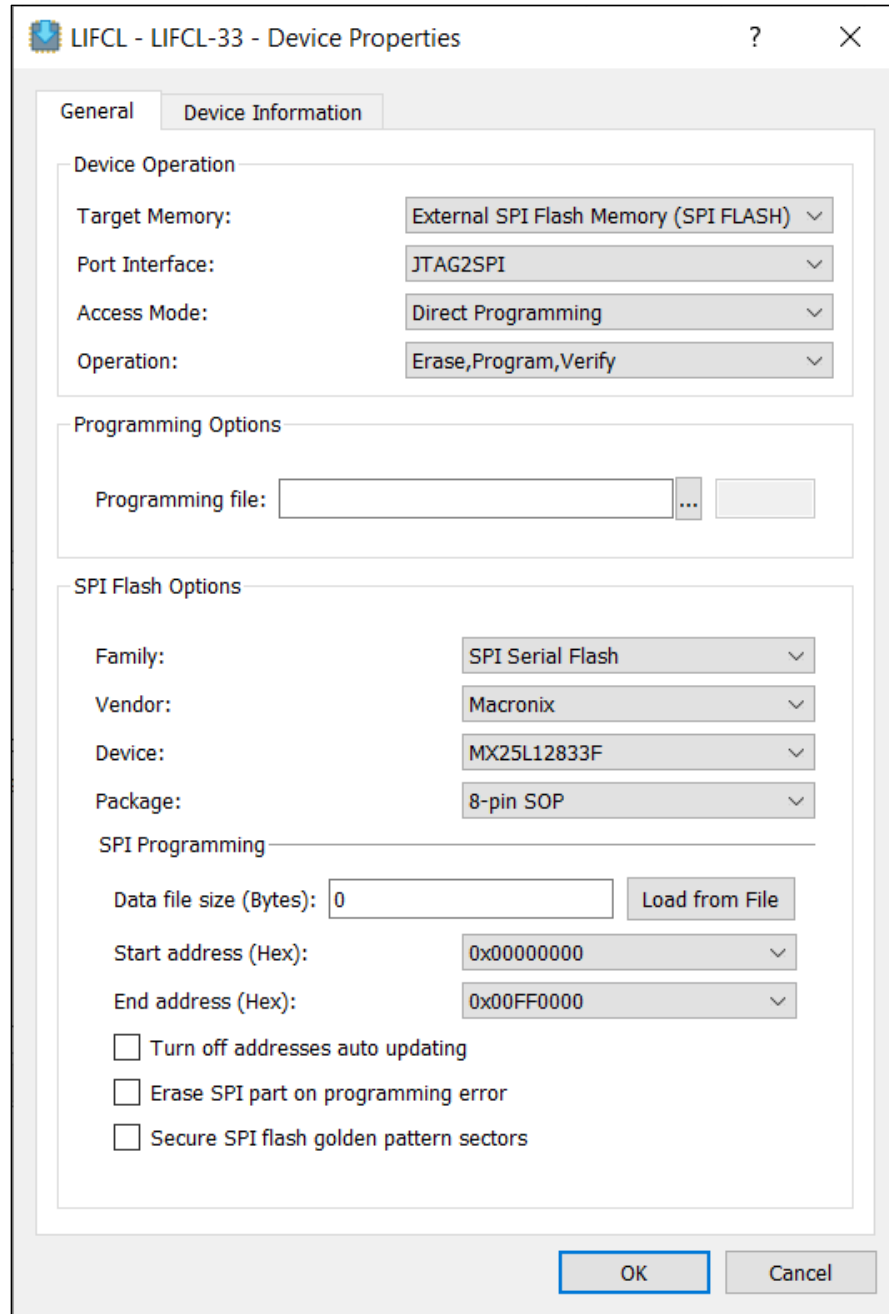

Figure 2.5. Lattice Radiant Programmer Device Properties Window – CrossLink-NX-33 VVML Board Configuration
7. Set **Target Memory** to **External SPI Flash Memory (SPI FLASH)**. Set all other options as shown in Figure 2.5.